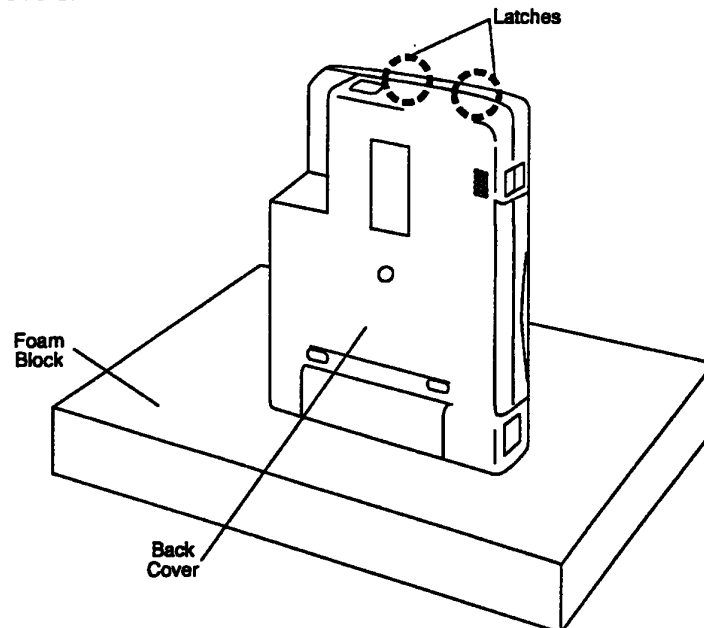

Figure 4-13 Position for Separating Bottom Latches
8. Rotate the unit so that it is standing with the expansion slot side down (Figure 4-13). Press the back cover by the **two remaining latches** and separate the covers.